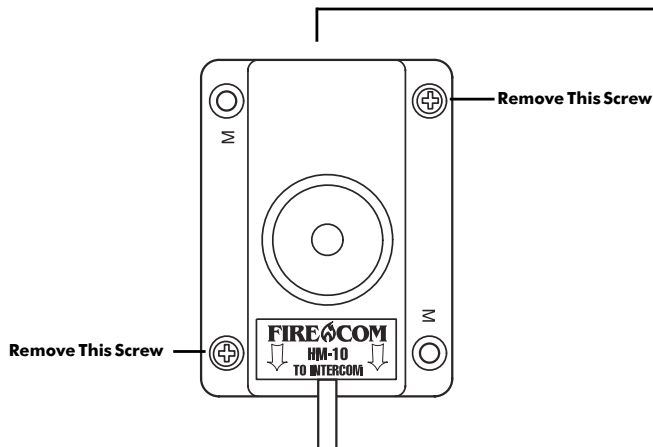

FIGURE 11:
- Remove the screws holding the HM-10 together (Figure 11) and remove the bottom plate of the HM-10.